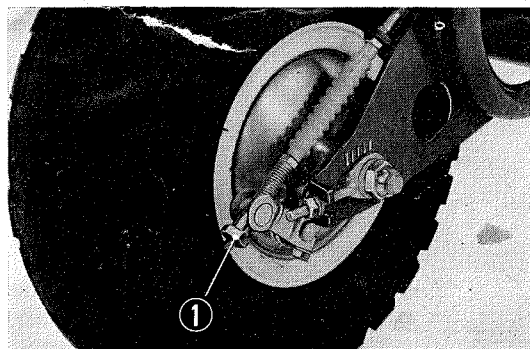

Fig. 68 Brake rod removal
2. Unscrew the brake adjust nut to remove the rear brake rod. (Fig. 68)